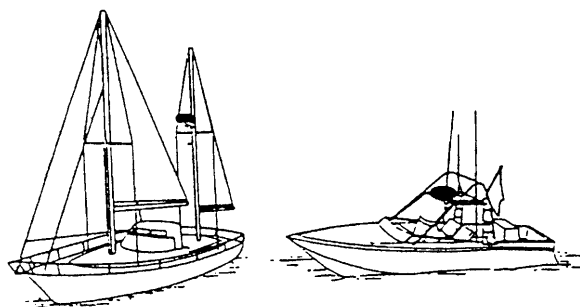

Figure 5-1 Typical antenna unit location
3. Prepare a platform of 5 to 10 millimeters in thickness for the antenna unit. (A mounting bracket for mounting the antenna unit on a sailboat mast is optionally available. See Figure 5-1.) Find the cable entry on the radome base. Next, position the radome base so the cable entry faces the stern direction. This alignment must be as accurate as possible. Fasten the radome base to the mounting platform with four each of M10 x 25 hex bolts, flat washers and spring washers.